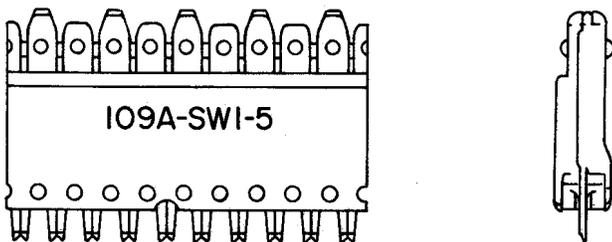

Fig. 1—109A-SW1-5 Connector
4.01 The 109A-SW1-5 connector (Fig. 1) attaches to the front of the 93-type connecting block providing an interface between the equipment cabling and the cross-connect field.